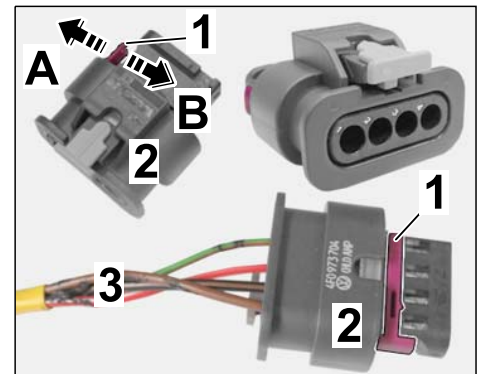

Figure 38
3.4.1 Release the socket housing (4-pin, see parts list) (⇒ *Figure 38-A*).
- 3.4.3 Lock the socket housing (4-pin, see parts list) (⇒ *Figure 38-B*).